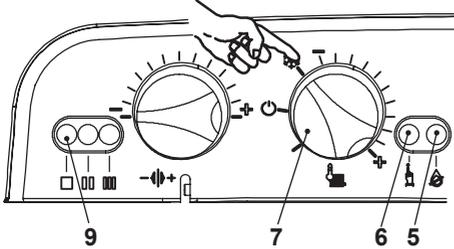

Fig. 7.5
- Turn the function selector 7 as in Fig. 7.5. The appliance operation light 9 will flash every 2 seconds.